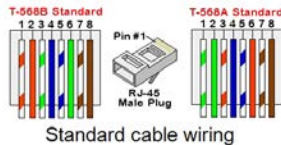

Figure 27: Standard cable wiring
- c. Insert the eight wires into an RJ45 connector (see Figure 27).